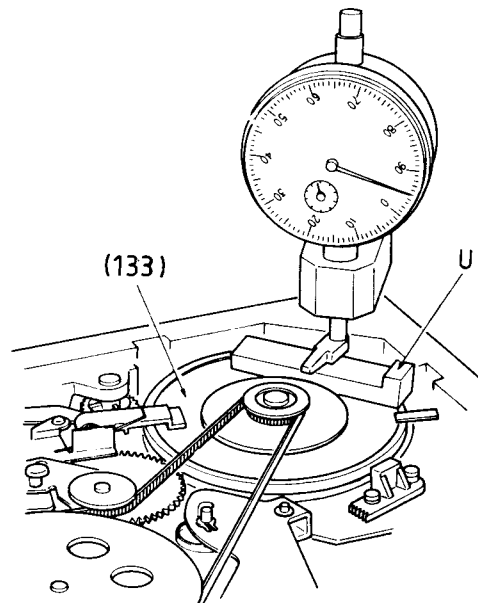

Fig. 24
- Place the Height Gauge "U" onto the capstan rotor (133) and the Dial Height Gauge as shown in Fig. 24 onto the smooth area on the edge of the mechanics. Set the pointer of the Dial Height Gauge to zero.